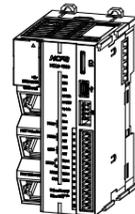

Figure 1 Model name and nameplate description
- ① Model name
- ② Voltage input and current required for normal operation
- ③ Output voltage and power
- ④ Bar code, S/N are the internal serial number, the first four bits of the PN code is the machine version number, example: Figure 1 is V2.000 version
- ⑤ QR code (model name, serial number)